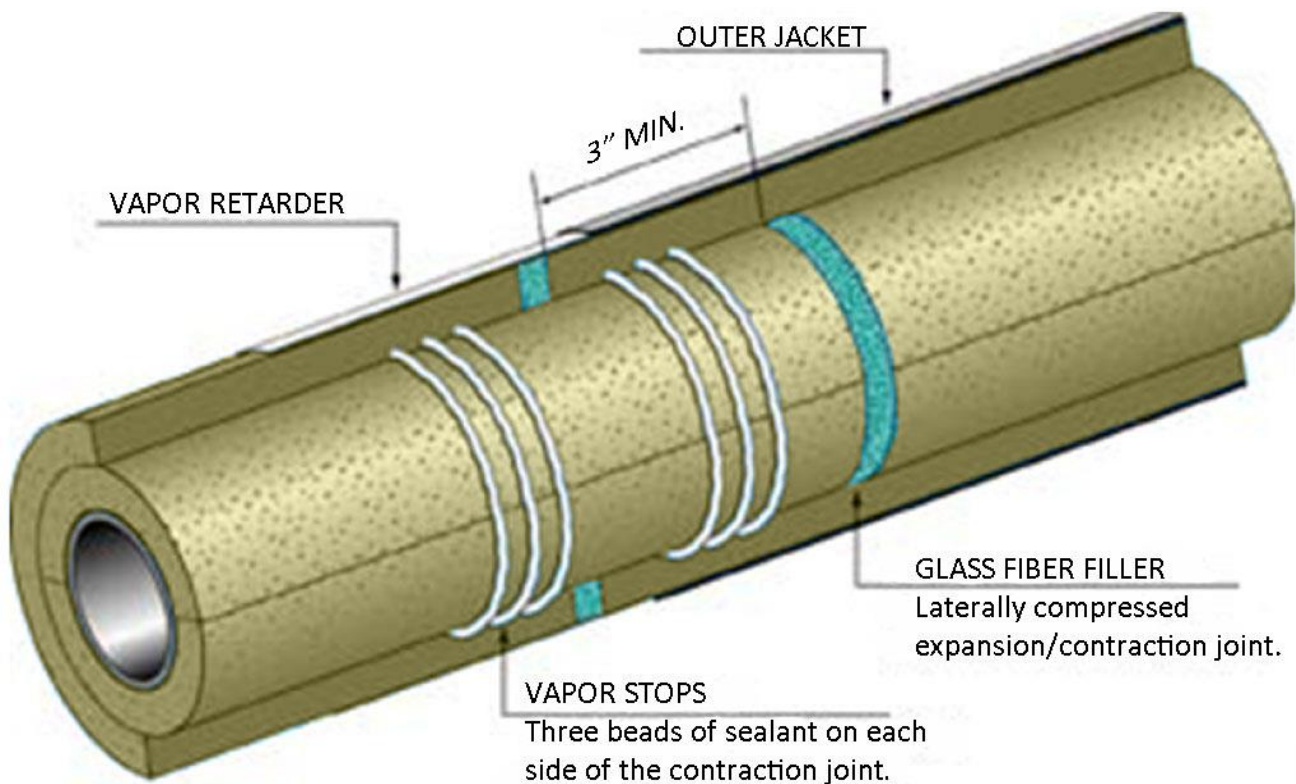

**Figure 4**
- 4.1.9 Insulation shall be secured to the pipe with 3/4" wide fiber reinforced tape. Tape shall be applied as per Figure 4 in Appendix B.